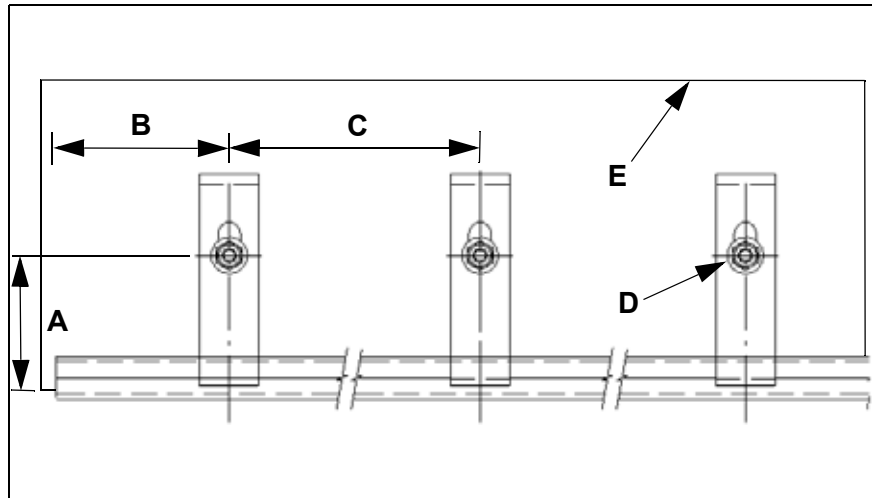

Fig. 2: Side view of the angle clamp positions
2. Tear a line 162 mm (180 mm for 45° troughing angle) on the chute wall (E, Fig.2) parallel and above the lower edge of the chute wall (A, Fig.2).
3. Place a marking along this line, starting 150 mm (B, Fig. 2) from the end of the chute wall every 305 mm (C, Fig. 2).
4. Weld the M12 welding bolts vertically at these markings (D, Fig.2).
3. Clamp the upper part of the secondary sealing strip with the help of the angle clamp of Martin Engineering make (or equivalent) against the chute wall. In doing so, ensure that the angle of the angle clamp (page 14, Fig. 2) sits in the middle of the edge seal.